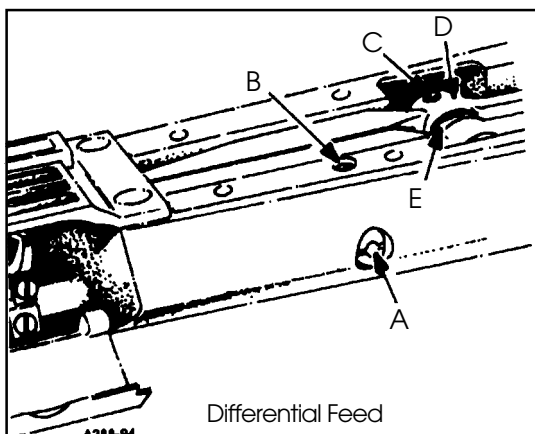
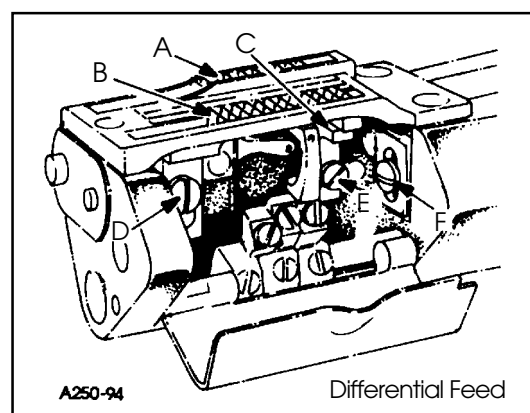

FIG. 10A
FIG. 11A
Before assembling the main and differential feed dogs, set the feed bar eccentric pin (A, Fig. 10A) located in the left side near center of cylinder, so that the slot in the head is in a horizontal position for the 35800DLU, DNU, and DZ style machines and turned counter clockwise to an approximate 45° for the 35800DWW style of machine. The pin can be used to slightly tilt both feed dogs if necessary. The feed bar pin is retained in position by set screw (B). Assemble differential feed dog (A, Fig. 11A), main feed dog (B) and throat plate. Both the main and differential feed dogs can be individually adjusted to height. Main feed dog (B) at its highest position, should be set to project above the throat plate, the depth of its teeth. If adjustment is necessary loosen screw (D) and move feed dog (B) up or down to attain correct setting. Feed dog support (C) should support front of feed dog.
NOTE: If eccentric pin (A, Fig. 10A) is used to tilt the feed dogs, make sure that the looper does not interfere with the rear needle guard and that the needle guard does not pinch the needle loops on the back side of the needles.
If adjustment is necessary loosen screw (E, Fig. 11A) in feed dog support (C) and move as required. Retighten screw (E). The differential feed dog (A) may then be leveled with main feed dog (B). If adjustment is necessary loosen screw (F) and move feed dog up or down as required. Retighten screw (F).
**NOTE:** Should the main feed dog require repositioning due to contact with the throat plate in its forward or rearward travel, loosen set screw (C, Fig. 10A) in main feed bar driving link (D), rotate main feed bar eccentric driving stud (E) as required. Driving stud (E) has a thin hexagon head with cutouts on two of the flats allowing movement by tapping with a sharp pointed tool, when wrench 21388AZ is not available. Whenever the main feed bar eccentric driving stud position has been changed, recheck rear needle guard setting, adjustment may be required. Retighten set screw (C). Position main feed dog support (C, Fig. 11A) flush against bottom of main feed dog (B), tighten support screw (E) securely.